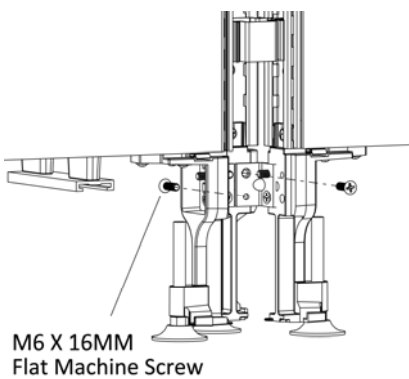

Figure 7
- 13.** Secure the base with two M6 X 16MM Flat Machine Screws, (Figure 7).